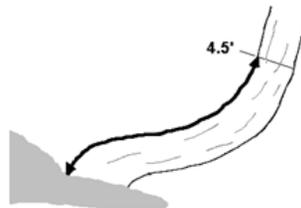

Figure 13 - Tree with Curved Bole (Pistol Butt Tree)
10. **Tree with Curved Bole (Pistol Butt Tree):** Measure along the bole on the uphill side (upper surface) of the tree (Figure 13).